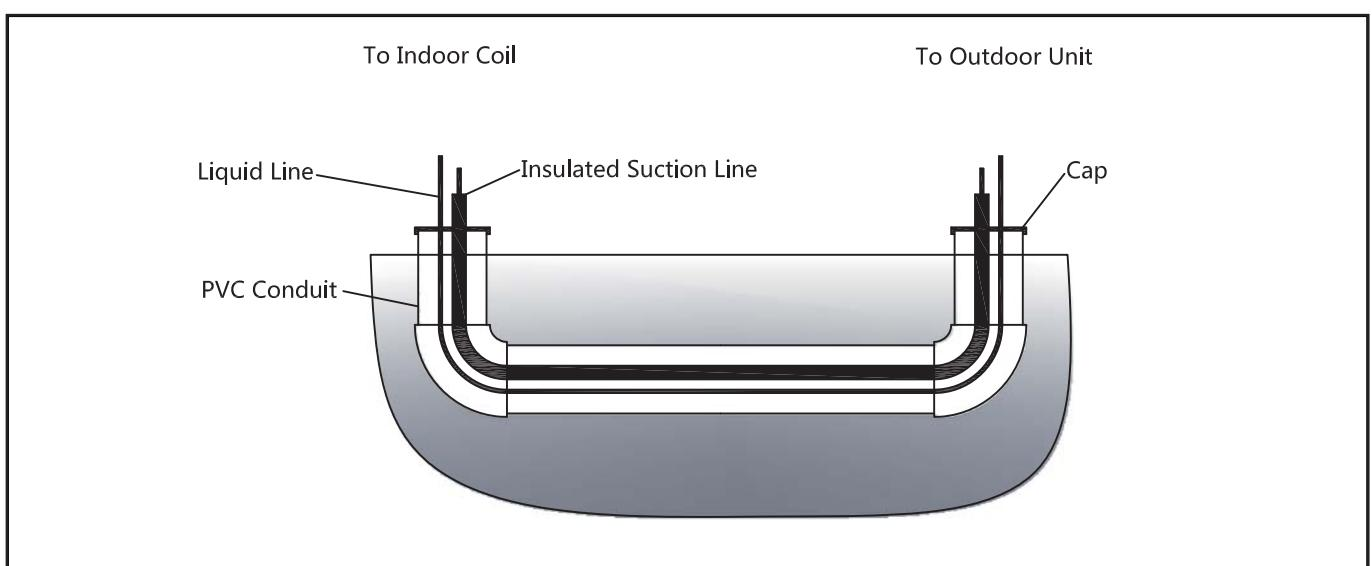

Figure 15
- Use PVC piping as a conduit for all underground installations as shown in Figure 15. Buried lines should be keep as short as possible.